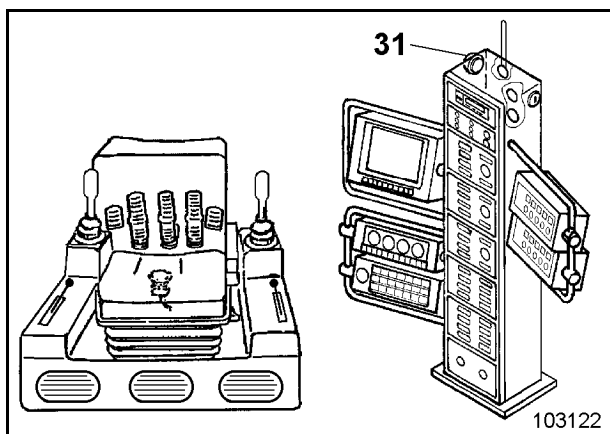

Fig. 2-21:
- in the control column in the driver's cab (31, Fig. 2-21:)